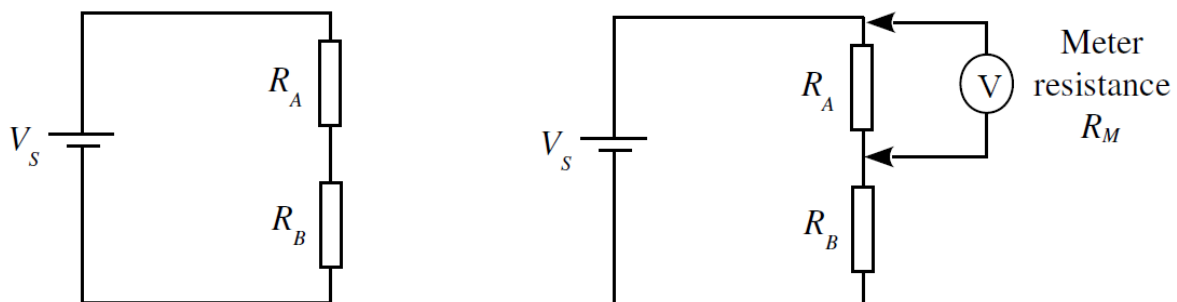

Figure 3: Circuits for Section B2: (a) Resistor in series (b) Resistor in series with meter
- a. Assume that we have a simple circuit with resistors R_A and R_B in series as shown below and you want to measure the voltage drop across R_B . Work out expressions for what you would expect the voltages across R_A and R_B to be for the circuit in Fig. 3(a). If $V_S = 3V$ what would the voltages across R_A and R_B be for the cases of:
- b. Now, suppose that you measure these voltages using a voltmeter which has a resistance R_M associated with it as shown in Fig. 3(b). Work out an expression for the actual voltage which would be measured across R_A and R_B using this meter. (Hint: first work out the resistance of the parallel combination of R_A (or R_B) and the meter in parallel, and then the resulting current in the circuit.)
- c. What voltages would you expect across R_A and R_B to be for the circuit in Fig. 3 (for both cases (i) $R_A = 1\text{ k}\Omega$, $R_B = 10\text{ k}\Omega$; (ii) $R_A = 100\text{ k}\Omega$, $R_B = 1\text{ M}\Omega$) if the measurement is done with a voltmeter of an internal resistance of (i) $R_M = 10\text{ k}\Omega$, (ii) $R_M = 1\text{ M}\Omega$ (iii) $R_M = 10\text{ M}\Omega$?